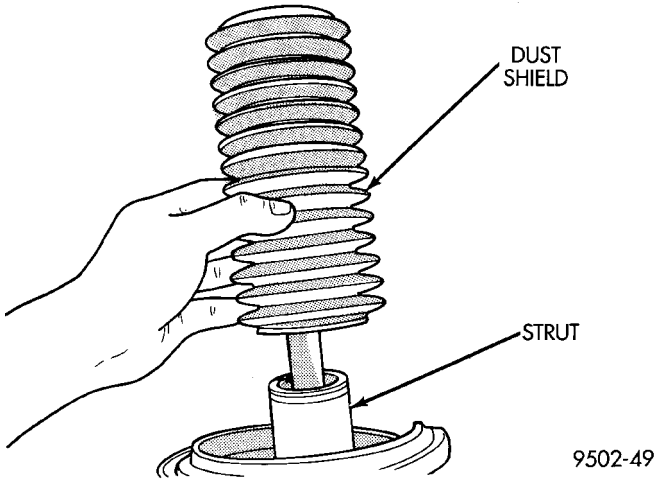

Fig. 32 Dust Shield
(9) Remove the dust shield from the strut assembly (Fig. 32).
- (3) Install the dust shield on the strut assembly (Fig. 32).